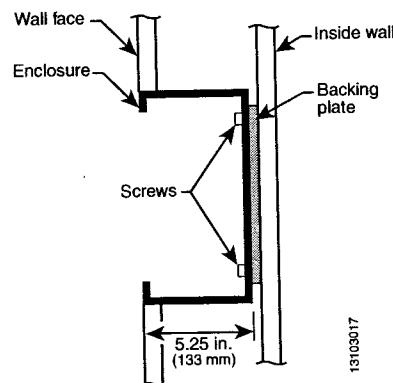

Figure 4: Flush Mounting the TVSS Device
3. Install a backing plate inside the wall cavity 5.25 in. (133 mm) from the wall face such that the TVSS device will be supported from its back. See Figure 4. Note the mounting holes on the back of the enclosure. Also note that the TVSS device weighs 35 lb (16 kg) maximum.